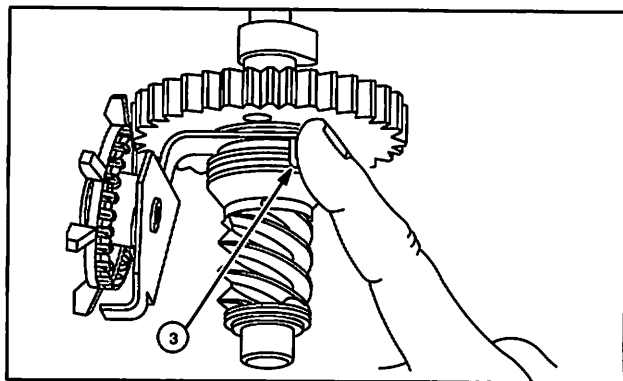

Fig. 54
- Push on spring tang (3), Fig. 54, turning spring and clutch sleeve in a counterclockwise direction.